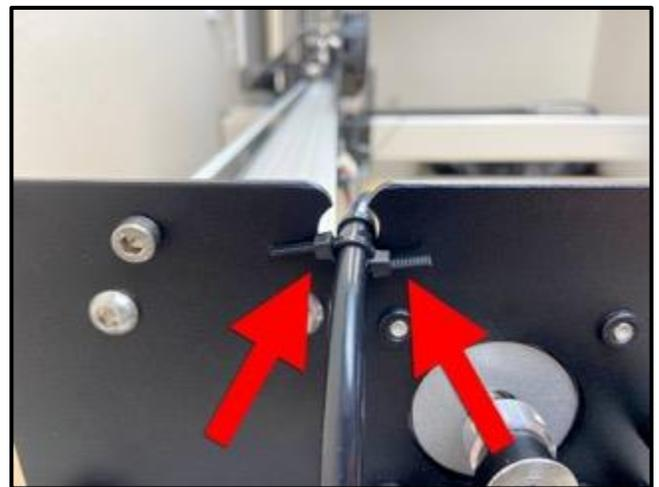

Figure 10-9
10. Trim down the ends of the two (2) cable ties on the outside of the Y2-carriage, leaving about 1/2-inch at the end of each as shown in **Figure 10-9**. (The short ends help hold the cable in place.) Do not trim the cable tie on the inside of the Y2-carriage at all.